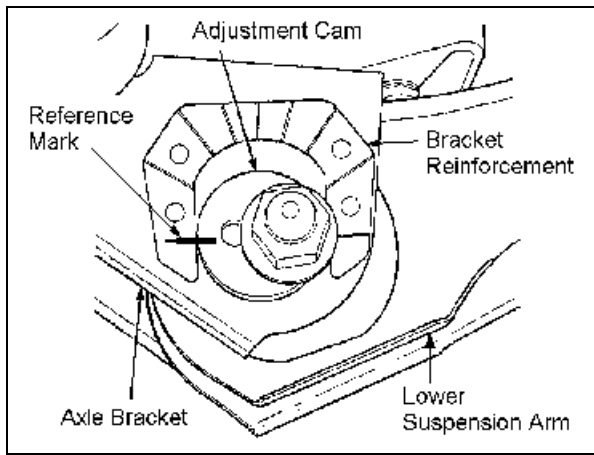

Figure 3
2. ≤ Paint or scribe alignment marks on the adjustment cams and axle brackets for installation reference. See Figure 3.